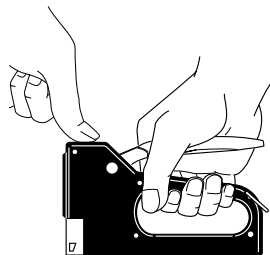

Figure 6
3. Depress handle firmly to fire. Do not allow tool to jump or recoil. *Note:* For greater driving force on harder surfaces, press thumb or palm of free hand against head of tool (see Figure 6).